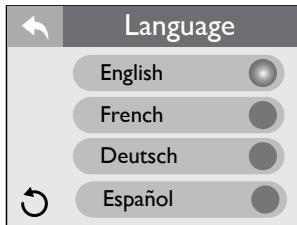

Figure 12.10b
1. There are 4 languages to select from: English, French, Deutsch, and Español. To select a language, tap  next to the language you want to display, Figure 12.10b.